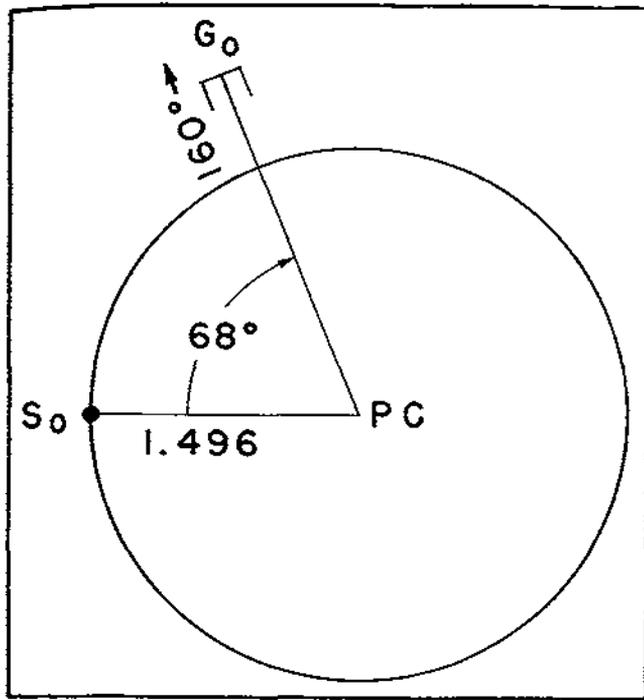

Figure 8.—
A. The first step is to draw a simple sketch of the situation, putting in all the known elements. Such a sketch is shown in figure 8. First draw the circle (with PC as the center) to represent the path of the sight as the gun is traversed through 360°. Then put in the line PC-G0 (with a cap on the end to represent the muzzle) at an azimuth of 160° (from south). This line then represents the gun in the orienting position. The angle G-PC-S0 is given as 68° to the left, so put in the sight S0 so that PC-S0 is 68° to the left of the gun barrel. S0 is then the orienting position of the sight. Since the gun is pointed at 160° and the sight is to the left 68°, the azimuth of the line PC-S0 is 160 - 68, or 92°. Because the field of fire is 360°, the aiming point should be selected in prolongation of the line PC-S0. Therefore, locate the aiming point at an azimuth of about 92° from the gun, say between 87° and 97°.